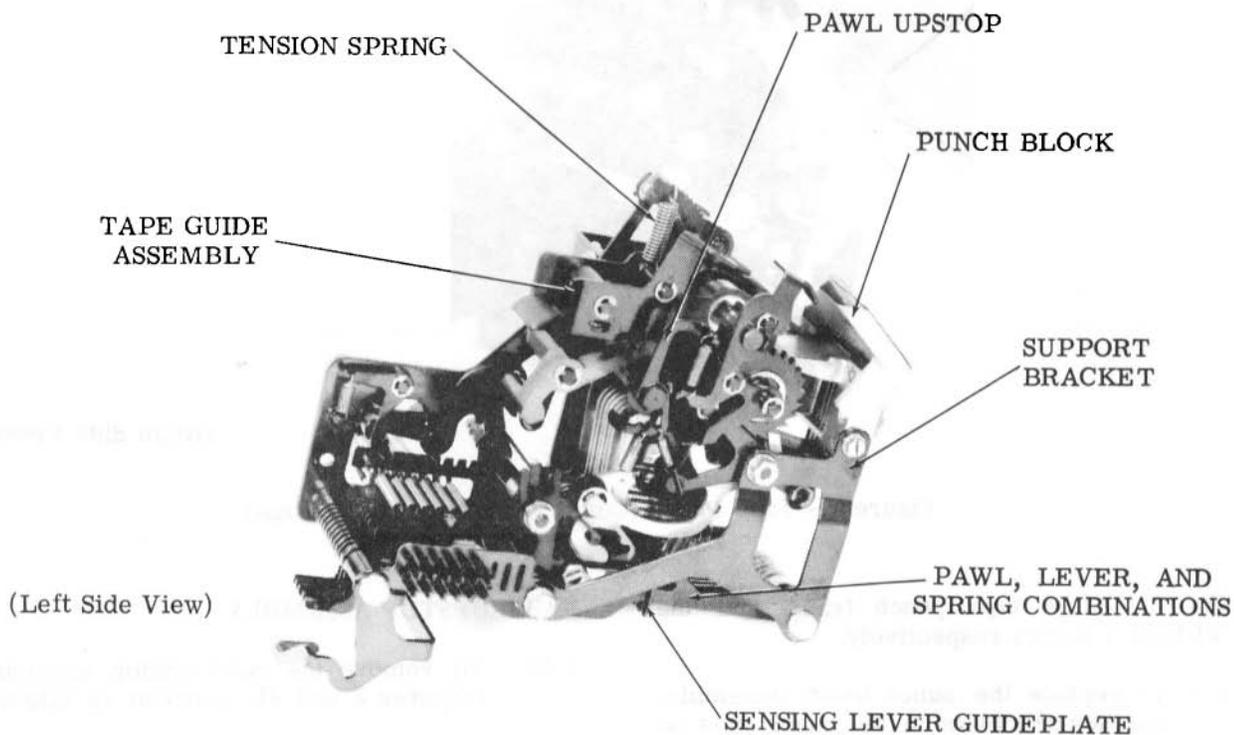

Figure 4 - Tape Punch (Cover Removed, Late Design)
2.07 To remove the pawl, lever, and spring combinations (Figure 4), proceed as follows.